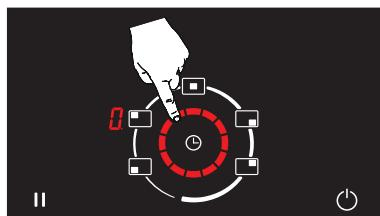

Figure 10
2. After selecting the relevant cooking area, it may be turned off by adjusting the temperature of the cooking area to the level of  using the rotating slide touch control. (See Fig. 10)